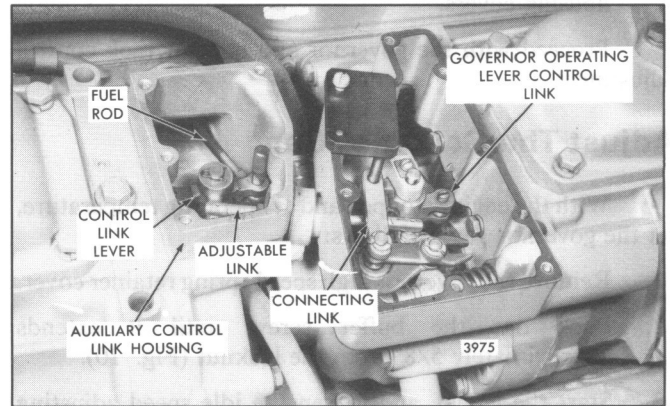

Fig. 2 – Positioning Control Link Levers with Tools J 21779 and J 21780
If the engine or governor has been overhauled, or the injector control linkage has been disturbed, the control link levers in the governor housing and auxiliary control link housing must be aligned before proceeding with the engine tune-up. Refer to Fig. 2 and position the control link levers, as follows:
6. Remove the connecting pin from the control link lever in the governor housing and install gage J 21780. Install the gage so the pin extends through the connecting link, control lever and fuel rod and the governor housing dowel pin extends into the small hole in the gage. Then install a governor cover bolt (Fig. 2). With gage J 21780 in place, the governor control link lever will be in the *mid-travel* position and parallel to the auxiliary control link lever.